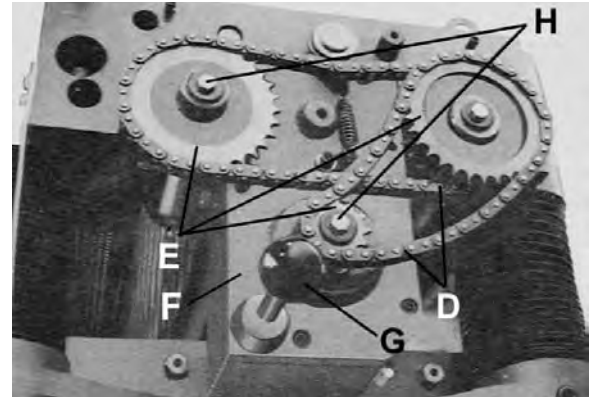
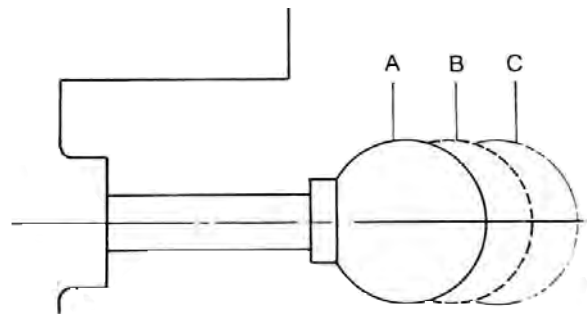

FIGURE 27
FIGURE 28
Your planer is equipped with a spiral, serrated infeed roller and a solid steel outfeed roller. When the feed rollers are engaged, they turn to feed stock. The feed rollers slow down automatically when the planer is under heavy load. The feed rollers are driven by chains (D) Fig. 27 and the sprockets (E), which take power directly from the cutterhead through the oil gear box (F).
There are two feed speeds in the gear box, they are controlled by using the speed shift lever (G) Fig.27. When the speed shift lever is completely pushed in (A) Fig.28, the feed speed rate is 30 ft./min., when it is completely pulled out (C) the feed speed rate is 16 ft./min. and the center position (B) is a neutral setting.